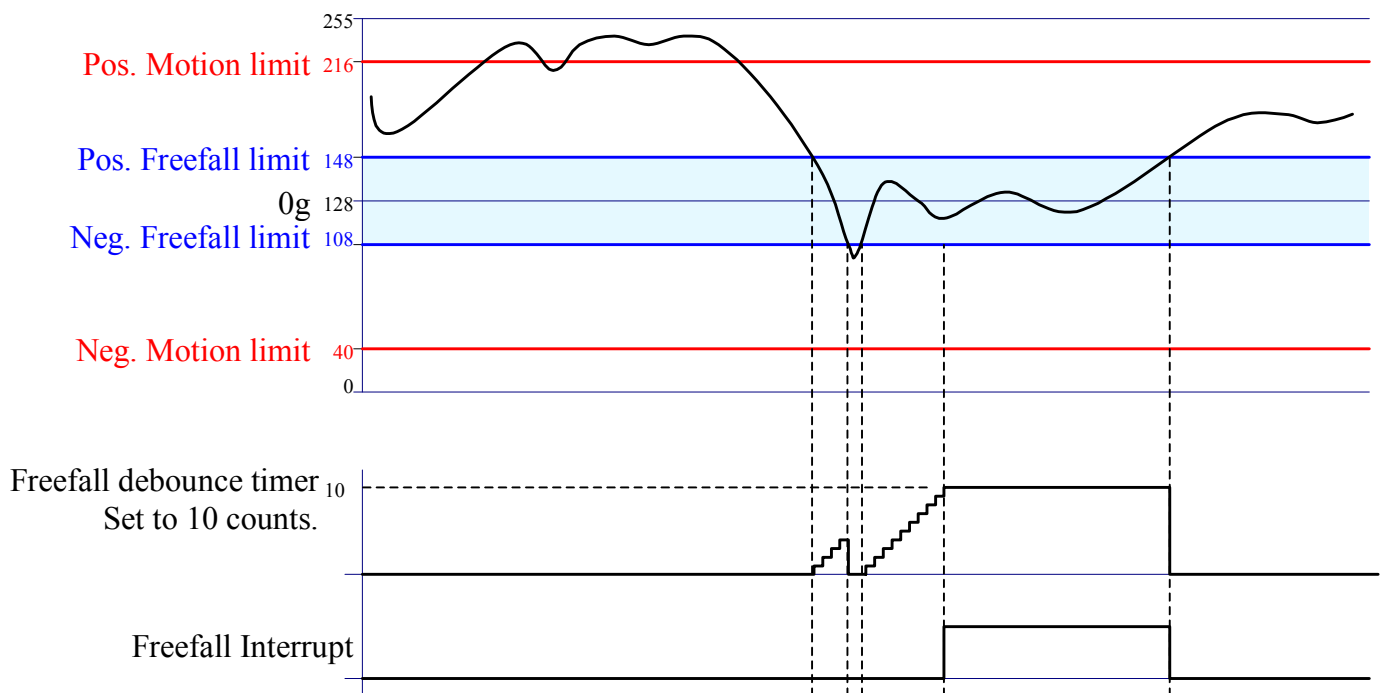

Figure 9. Typical Free-fall Interrupt Example (FFLatch = 0)
**FFLatch** switches the free-fall interrupt function between latching and non-latching as shown in Figures 9 and 10.